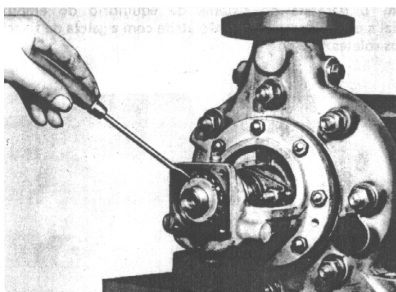

Fig. 15
- Give the final tightening of the Bearing Fixing Nut until one of the tabs of the Locking Plate coincides with one of the grooves of the Bearing Fixing Nut. Make the lock using a screwdriver (See fig. 15).